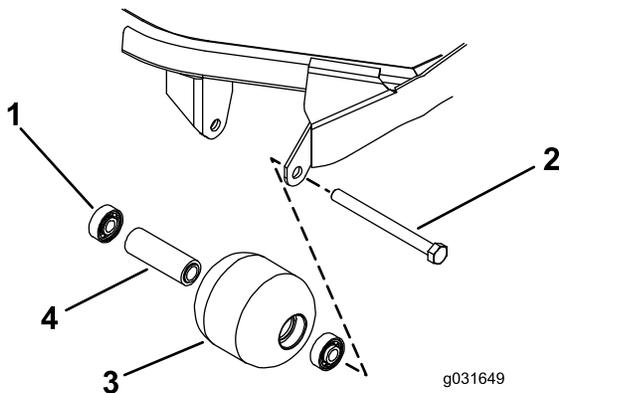

Figure 71
- Remove the roller-mounting bolt (Figure 71).
- Inspect the roller housing, bearings, and bearing spacer for damage (Figure 71).
- Pressing on the outer race only or equally on the inner and outer race, press the first bearing into the roller housing (Figure 71).
- Insert the spacer (Figure 71).
- Pressing on outer race only or equally on the inner and outer race, press the second bearing into the roller housing until it contacts the spacer (Figure 71).